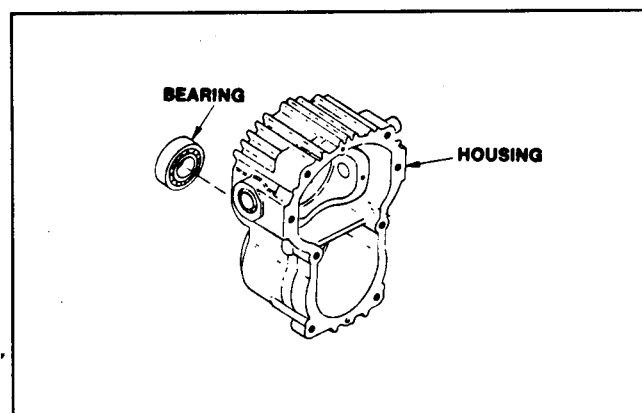

Figure 45
2. Reinstall the motor shaft bearing by pressing it into the main transmission housing, from the outside towards the rear of the housing, until it seats fully into the housing (Fig. 45).